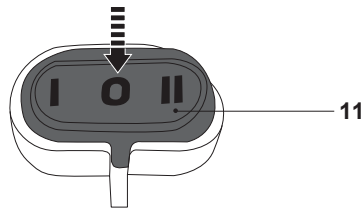

Fig. 19
- > Make sure the on / off switch (11) is in the off position O (Fig. 19).